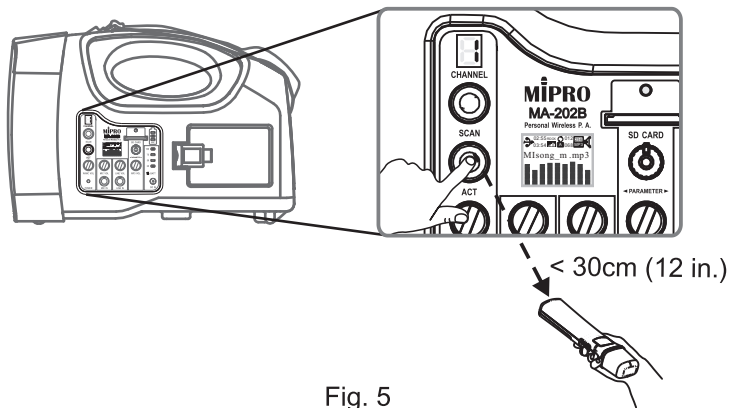

Fig. 5
- (A) Interference or noise occurs during performance.
- (B) When two or more wireless PA systems need to be used at the same venue and at the same time.
- (A) Do not change and select a new channel while another MIPRO wireless system is operating as it may cause interference to each other.
- (B) If “_” symbol displays during channel scanning this indicates the current channel in this frequency band is experiencing interference. If problem persists, it is recommended to change and use a different frequency band.
- Press and release ACT button ④, the current channel ② blinks and is ready for ACT synchronization.
- Power on handheld or bodypack transmitter. During channel blinking, bring transmitter sync window within 30 cm (12-inch) of ACT Sync Window ⑩ of PA, Fig. 5.